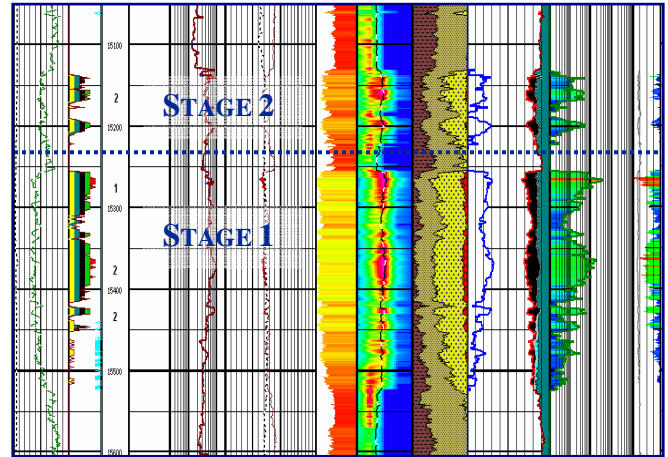

Figure 2: NuLook Textural Vision analysis of Wilcox interval.
- NuLook Textural Vision analysis of new drill well (Fig. 2)